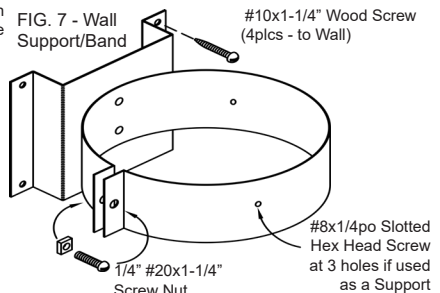

FIG. 7 - Wall Support/Band
9. WALL SUPPORT/WALL BAND - FIGS 7 & 8